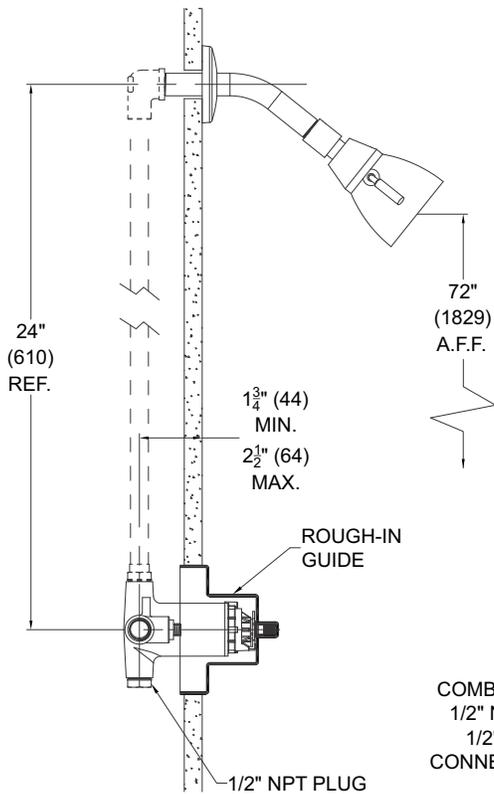

FIGURE 1
4. For **shower only installation**, see Figure 1 on page 3. Pipe directly from top outlet port to showerhead and leave plug in bottom port. Outlet port connection is 1/2" NPT female.